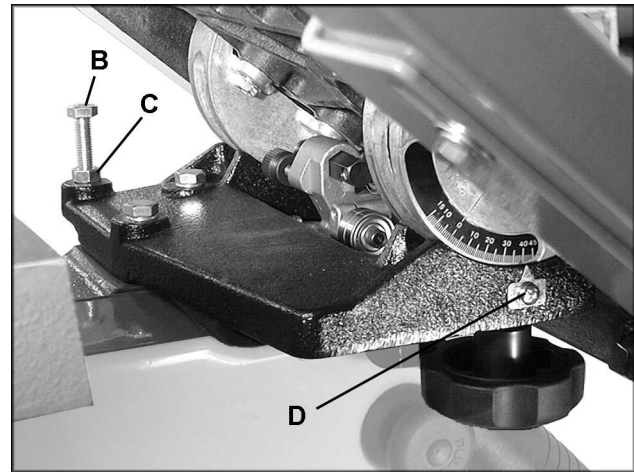

Fig. 23
5. Loosen jam nut (C, Fig. 23) and turn table stop (B, Fig. 23) left or right to raise or lower the stop. Tighten jam nut to hold table stop in place.
7. If necessary, adjust pointer (D, Fig. 23) to zero.